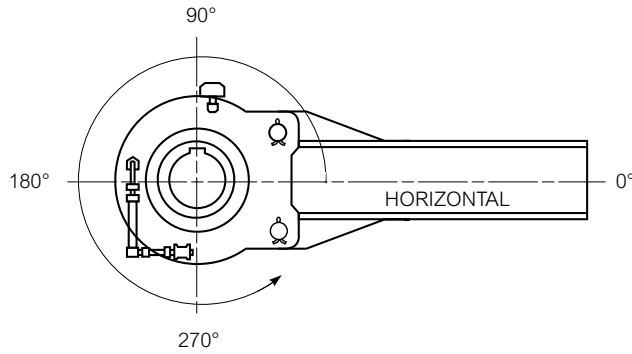

Figure 7
1. As previously stated, Rexnord custom fits the lubrication lines and marks the static oil level to suit the torque arm mounting angle specified at the time of purchase. The lubrication lines, sight gauge, and breather are removed for shipping purposes. The torque arm mounting angle is stamped on the backstop nameplate, and the backstop must be mounted within  $\pm 5^\circ$  of this angle. See Figure 7, page 8, for interpretation of mounting angle. Lubrication lines and oil level will be incorrect for other angles.